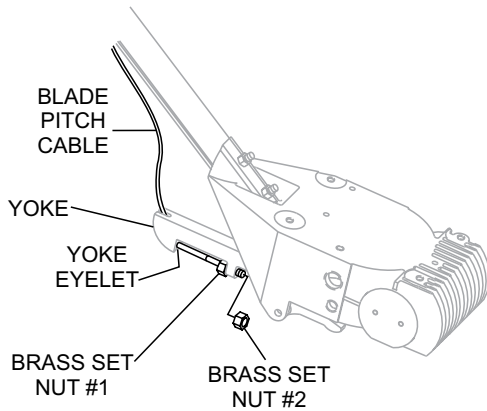

Figure 13. Pitch Cable Yoke Attachment
5. Insert the cable end through the yoke eyelet (Figure 13). Tighten brass set nut #1 by hand to remove all the slack from the cable.